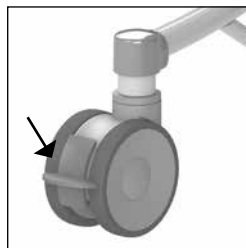

Figure 1 Swivel wheel.
- The brake can be applied on the Tango XXL by pushing the gray lip on the wheel downwards (See figure 1).